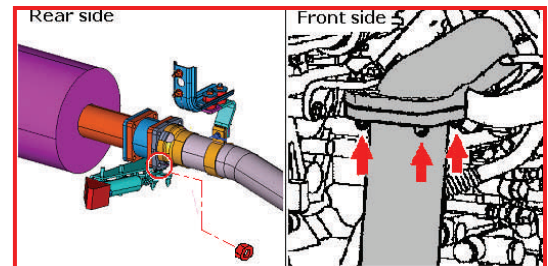

Figure 4
3) **REMOVE EXHAUST DOWNPIPE**- using a suitable stand, support exhaust at front of muffler. Loosen four nuts on down pipe flange in front of muffler then remove four nuts securing down pipe at turbo. At this time completely remove previously loosened nuts at muffler flange side and remove down pipe. (See Figure 4)